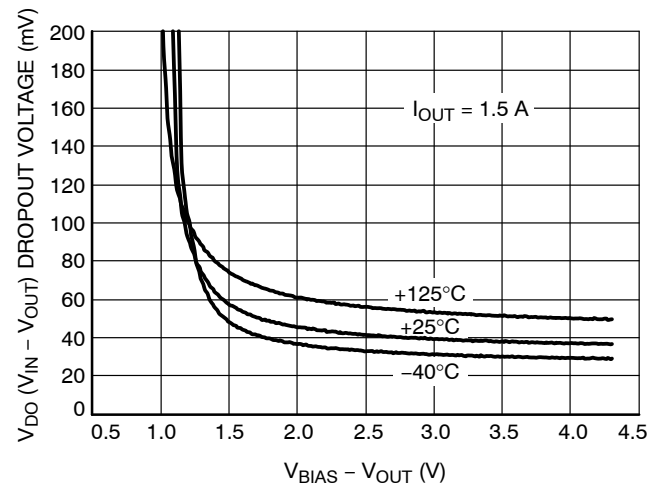

Figure 8. V_{IN} Dropout Voltage vs. ($V_{BIAS} - V_{OUT}$) and Temperature T_J
- 3.25 V is a test condition of this device and can be adjusted by referring to Figure 8.